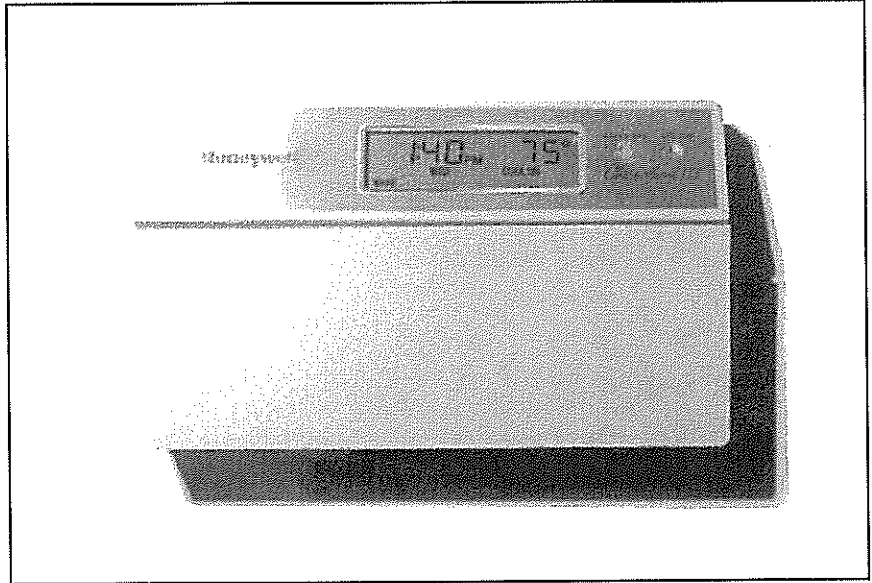

Figure 1. Electronic Thermostat
- **Automatic** - Automatic control systems require no manual input to control the operation of a machine. Automatic control systems are operated by automatic input devices, often called pilot devices. Pilot devices react to conditions in a system. An example of an automatic control system is a heating/cooling system. A thermostat, like the one shown in figure 1, serves as the pilot device, which automatically monitors the room temperature and performs operations based on the information it gathers.